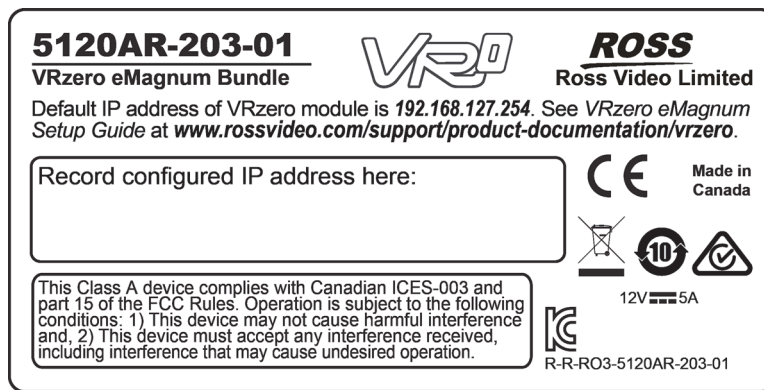

Figure 4.1 - Label on the Back of the VRzero Module, with Space to Record the IP Address
- Check whether the IP address is written on the back of the VRzero module. The label on the back of the module has a blank area intended for recording the IP address (see **Figure 4.1**).